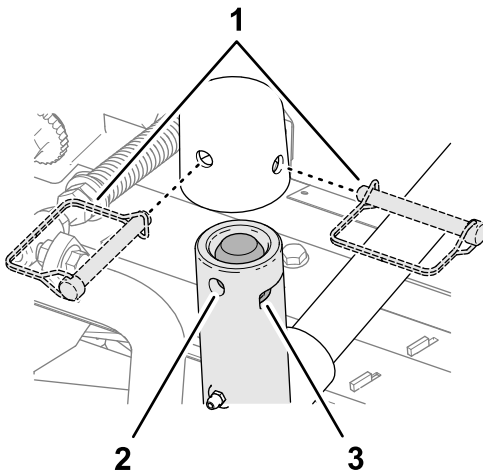

**Figure 20**
2. Assemble the pivot yoke onto the carrier frame shaft (Figure 20).